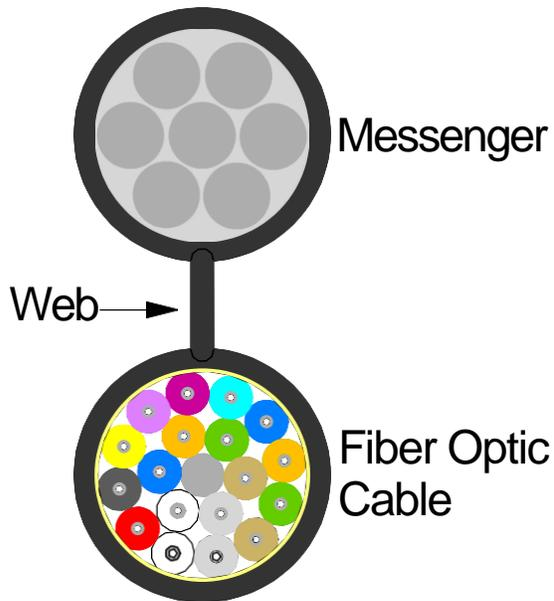

Figure 8 Installation Instructions
A figure 8 fiber optic cable design incorporates a steel or dielectric messenger into the fiber optic cable thus, eliminating the need to lash a fiber optic cable to a messenger. A figure 8 fiber optic cable consists of three components: the messenger, the webbing, and the fiber optic cable.
A figure 8 messenger cable has several advantages. Installation material cost may be reduced by eliminating the need to purchase a separate messenger wire and lashing wire. The labor cost can be greatly reduced in that there is only one installation job, installing the figure 8 cable. This compares with two installation jobs required when first the messenger must be installed, and then the cable installed by lashing it to the messenger. Typically, the overall cost of the installation may be reduced by as much as 40 %.
The OCC figure 8 cables are also uniquely available in an all dielectric configuration. This may eliminate issues of use near other cables or reduce the possibility of lightning strikes in high lightning areas.
Some precautions to installing figure 8 cables include the following:
- Maintain the minimum bending radius (MBR). The minimum bending radius for Optical Cable Corporation's figure 8 cables are as follows:
Dead ends maintain the tension in the cable. A typical dead end consists of spirally formed high strength steel wires which are installed to the bare messenger wire of the figure 8 cable.
Installation – Figure 8 Guidelines Excerpt from Optical Cable Corporation's *Installation Guide*
Tangent support clamps are used to support the figure 8 cable where limited tension is applied to the figure 8 cable. Various types of tangent support clamps, typically 3-bolt designs, are available such as Type C, Corner Suspension Clamps, etc. Please consult the tangent support clamp manufacturer for pull tolerances, sizes, and angle departure.
Installation – Figure 8 Guidelines Excerpt from Optical Cable Corporation’s *Installation Guide*
In the stationary reel method, the figure 8 cable is pulled into place using rope and stringing blocks placed at each pole along the route. The radius of the stringing blocks must meet the minimum bending radius (under installation load or short term load) of the cable.